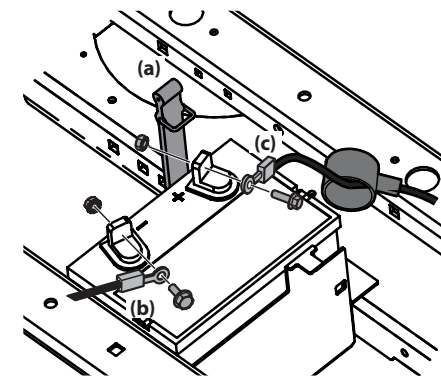

Figure 4-5
- Unhook the strap (a) holding the battery in place. See Figure 4-5